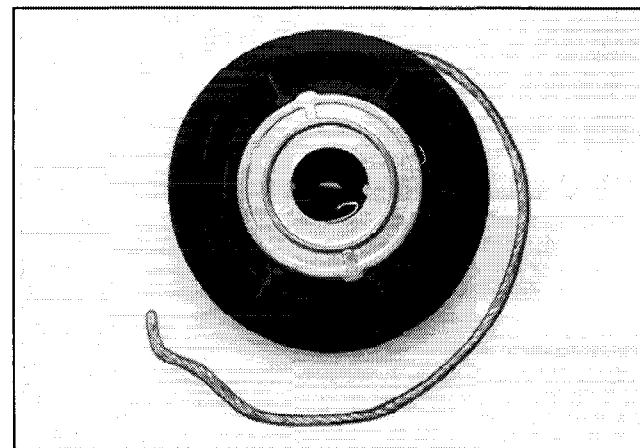

Figure 7-9. Position Of Spring And Keeper On Pulley.
10. Note the position of the spring and keeper assembly on the pulley. Also refer to Figure 7-9. (The spring and keeper assembly must be correctly positioned on pulley for proper operation.) Remove the spring and keeper assembly from the pulley **as a package**.
1. Make sure spring is well lubricated with grease. Position the spring and keeper assembly to pulley (side opposite pawls). The outside spring tail must be positioned opposite rope pocket. Refer to Figure 7-9.